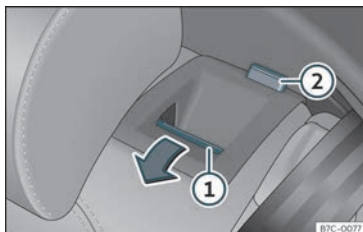

Fig. 101 Rear seat: folding the backrest.
- Pull the unlock button >>> Fig. 101 ① forward and lift the backrest at the same time. The rear seat backrest is not engaged when the red marking of the button ② is visible.